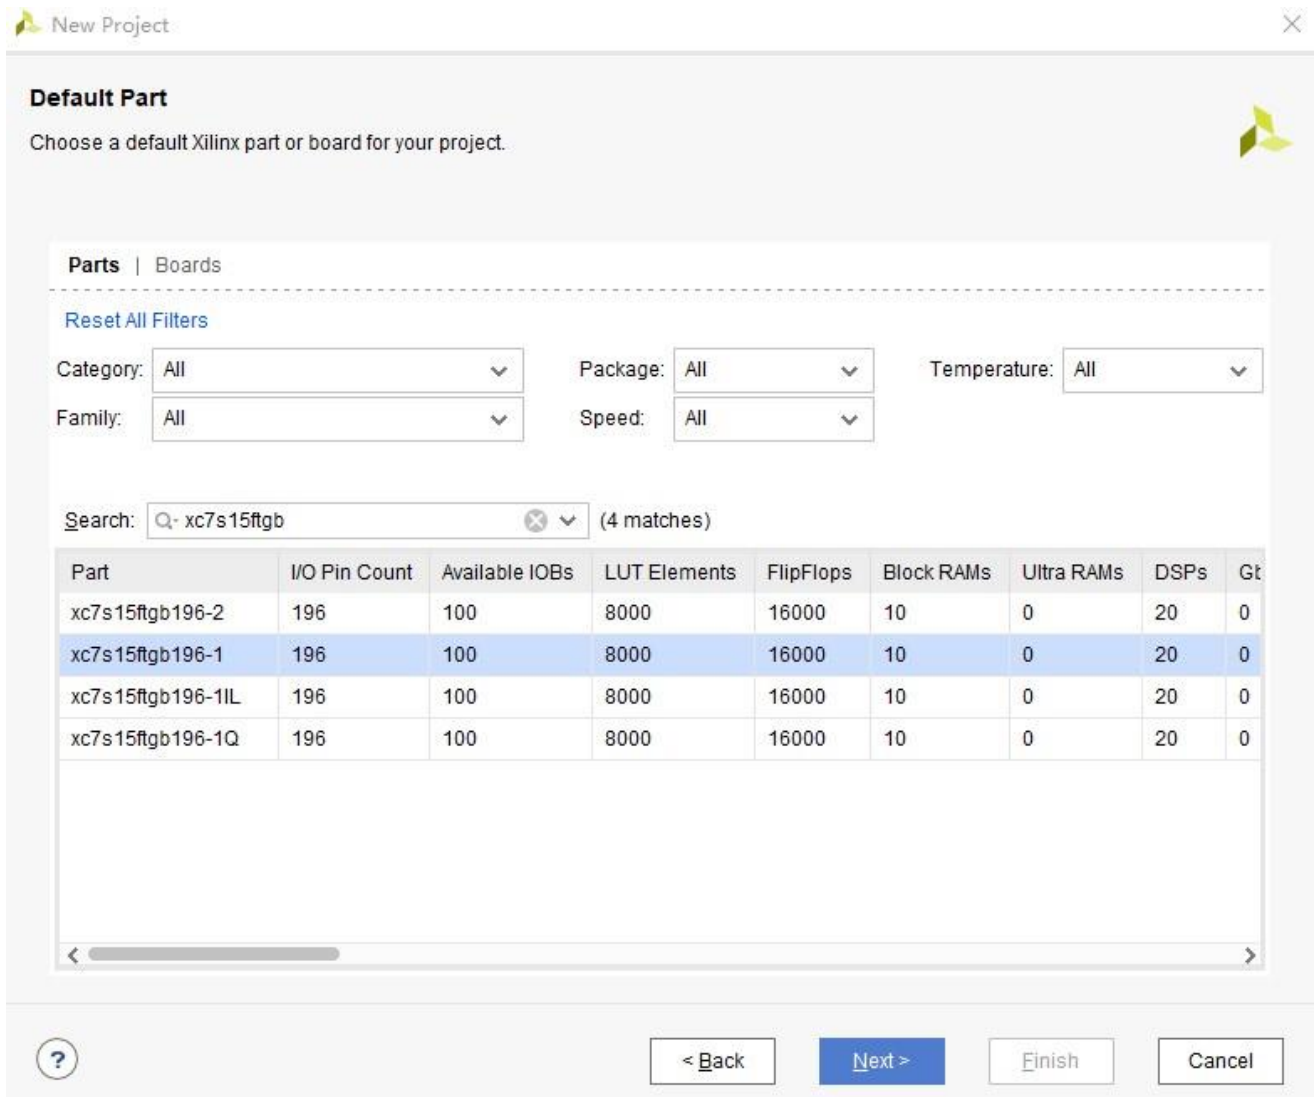

Figure 1.
1. Select the **xc7s15ftgb196-1** part for project, and click Next, as shown in figure 1.